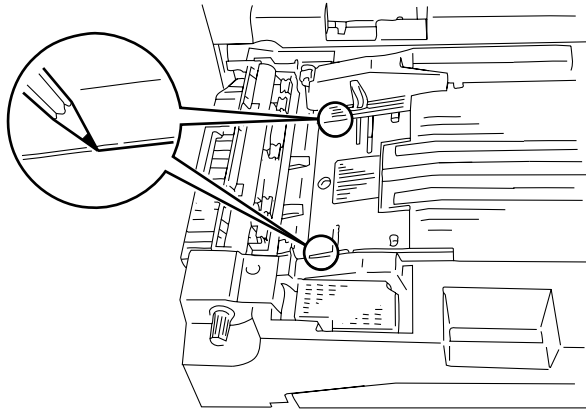

Figure 5-893
- 2) With the paper jogging guide plate fully open, mark the position of the paper guide plate with a scribe. (See Figure 5-893.)
- 3) Remove the three mounting screws ①, and disconnect the connector ②; then, remove the rear guide plate assembly ③.